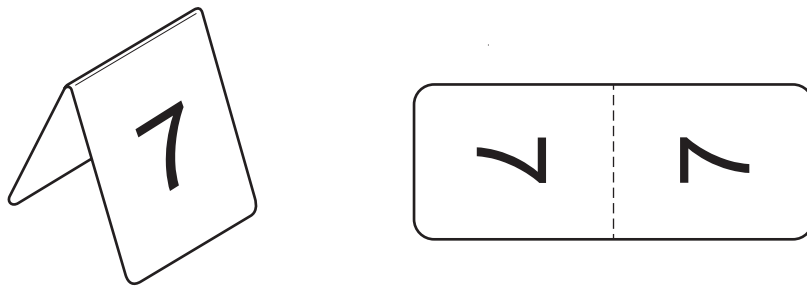

Fig. 7.1
- 7 Fig. 7.1 shows a table number stand used in a cafe and a development (net) of the stand.